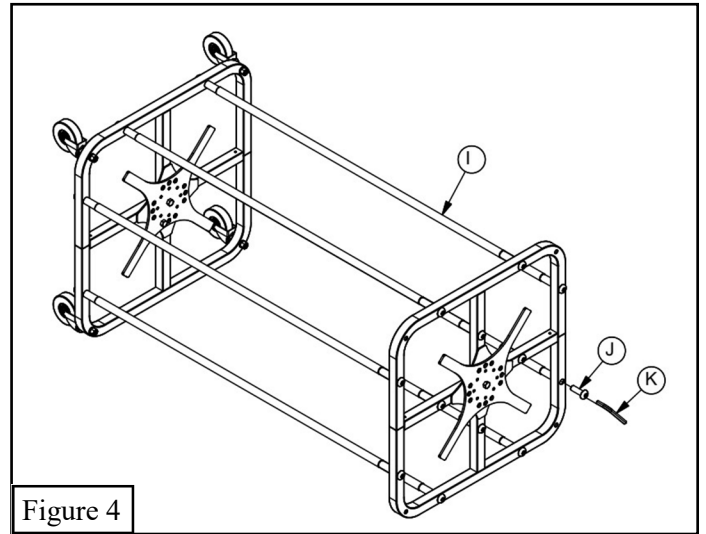

Figure 4
3. Assemble both *Cart Ends* (A) to the *Horizontal Bars* (I) using the *1/2" Button Head Cap Screws* (J) and the *5/16" Allen Wrench* (K). Make sure both *Lock Plates* (B) are facing up. See Figure 4.